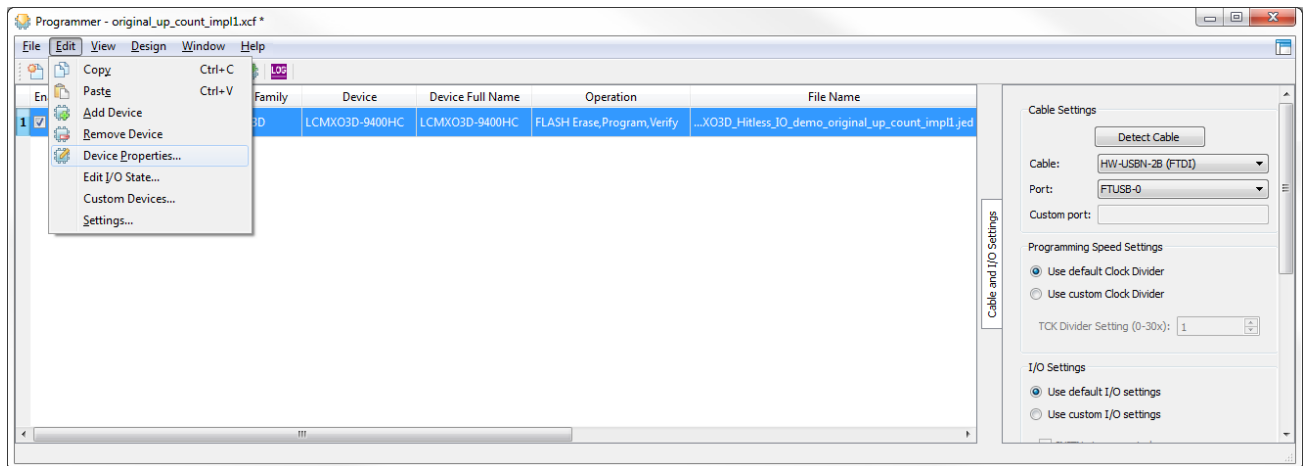

Figure 6.6. Device Properties Option
- In Diamond Programmer, click to highlight the device row. From the menu bar, select **Edit > Device Properties** (Figure 6.6).